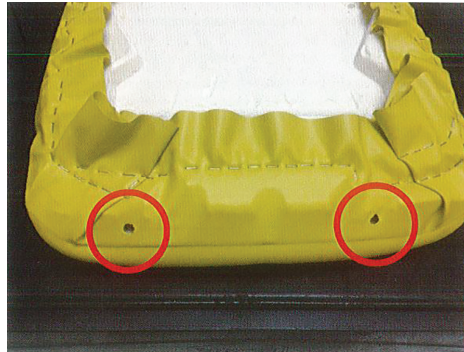
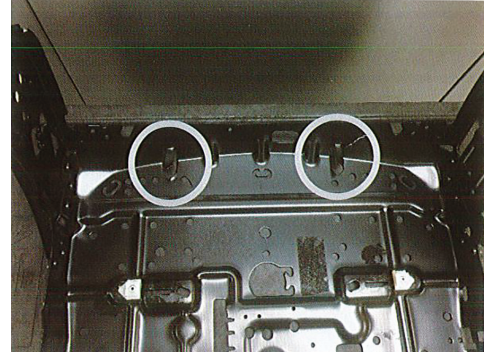

Figure 1
Figure 2
1. Line up the holes in the back of the seat cushion (see Fig. 1) with the fingers pointing forward at the back edge of the steel pan (see Fig. 2).